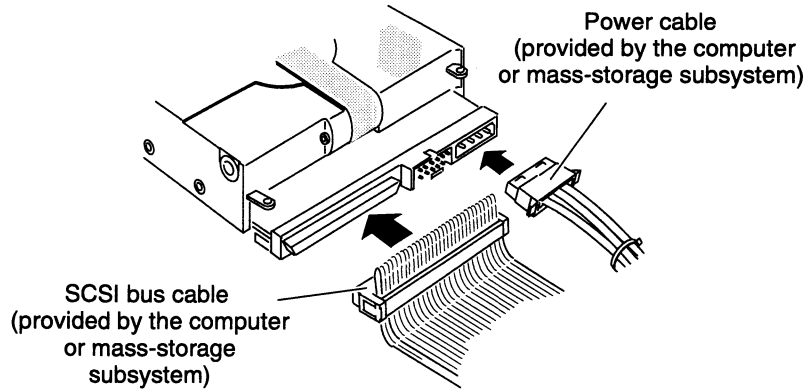

Figure 12 Connecting the SCSI bus cable and power cable to the back of the Model 61012-W or 61014-W disk drive (Version A)
15. If you are installing a Model 61012-W or 61014-W disk drive, connect the SCSI bus cable provided by the computer or mass-storage subsystem into the SCSI bus connector on the back of the disk drive (Figure 12).
Make sure the color tracer wire on the SCSI bus cable connects to pin 1 in the SCSI connector on the disk drive (Figure 12).
- ▶ If you are installing a drive model with a -W suffix, refer to Figure 12.